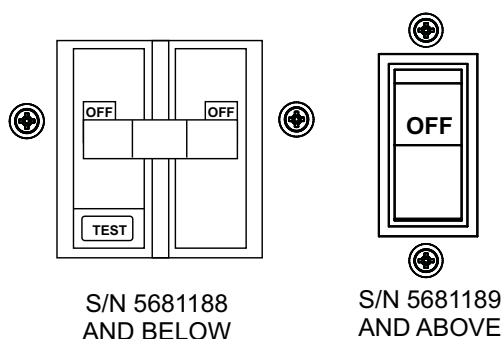

Figure 17. Main Circuit Breaker (OFF)
2. **NEVER** start the engine with the main circuit breaker in the **ON** position. Always place circuit breaker (Figure 17) in the **OFF** position before starting.